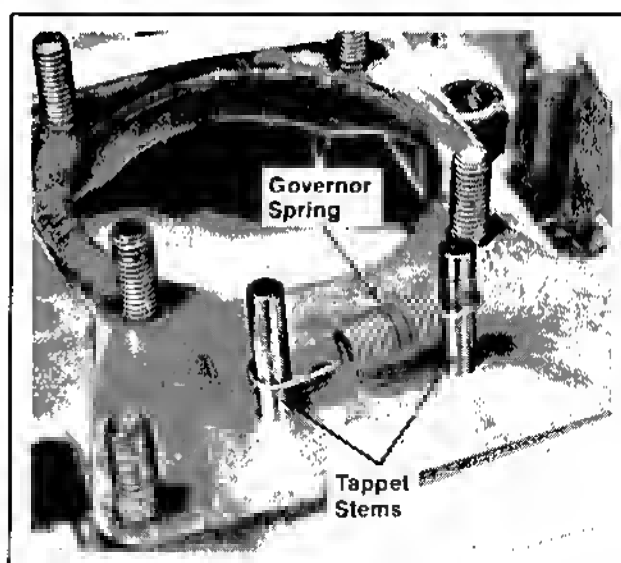

Figure 11-15. Holding Tappets (#2 Side) Using Governor Spring.
2. Put tape or governor spring around the tappet stems in the #2 crankcase side. This prevents the tappets from falling into the #1 side when reassembling crankcase. Refer to Figure 11-15.